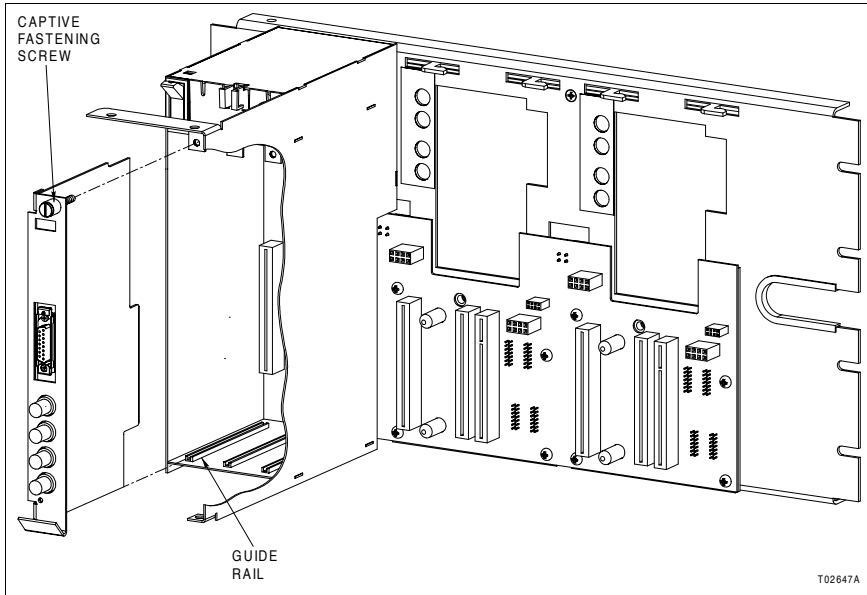

Figure PR4-1. Termination Unit Installation
-  1. Align the TU circuit board with the guide rails in the TU housing (Fig. PR4-1).